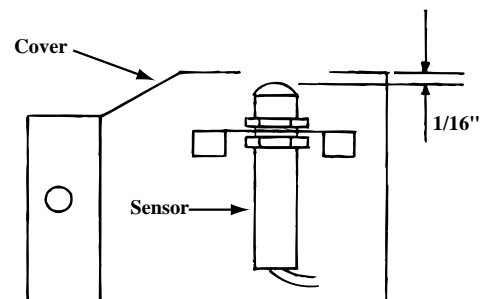

Figure 13
4. Refer to Fig. 13 and mount the new sensor in its cover using the nuts provided. Recess the sensor 1/16" in the cover to protect the lens.